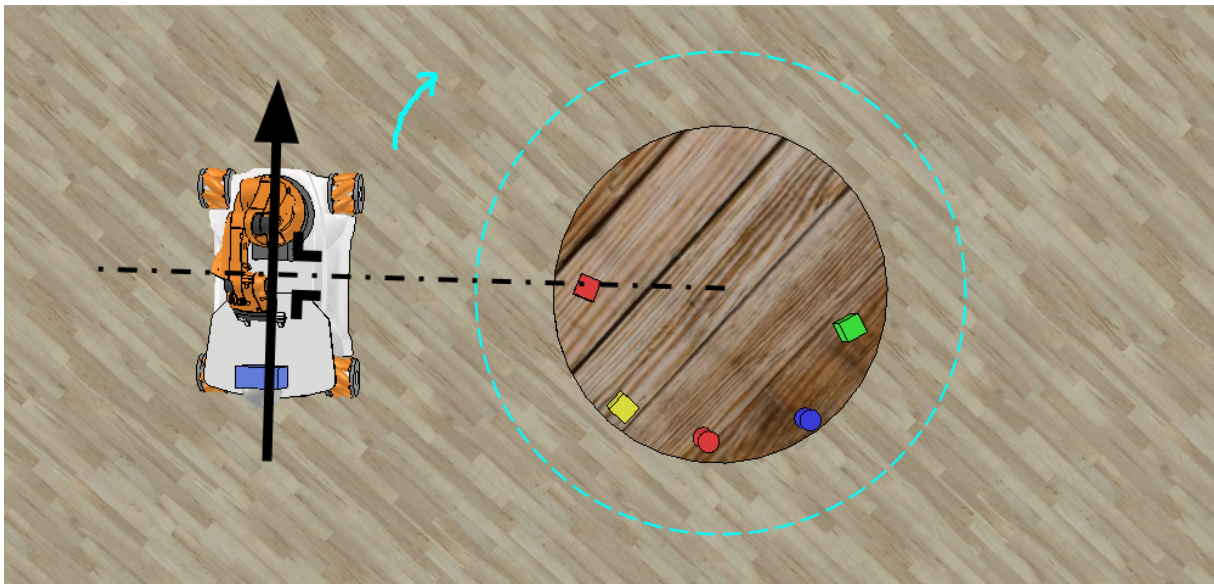

Figure 3: youBot positionning before getting closer to the table
2. When it reached this goal, the youBot rotates in order to position itself with its direction perpendicular to the line going through its center and the center of the table. There is however two direction that follows this criteria, so we chose the one that is pointing in the clockwise direction around the table (see figure 3).